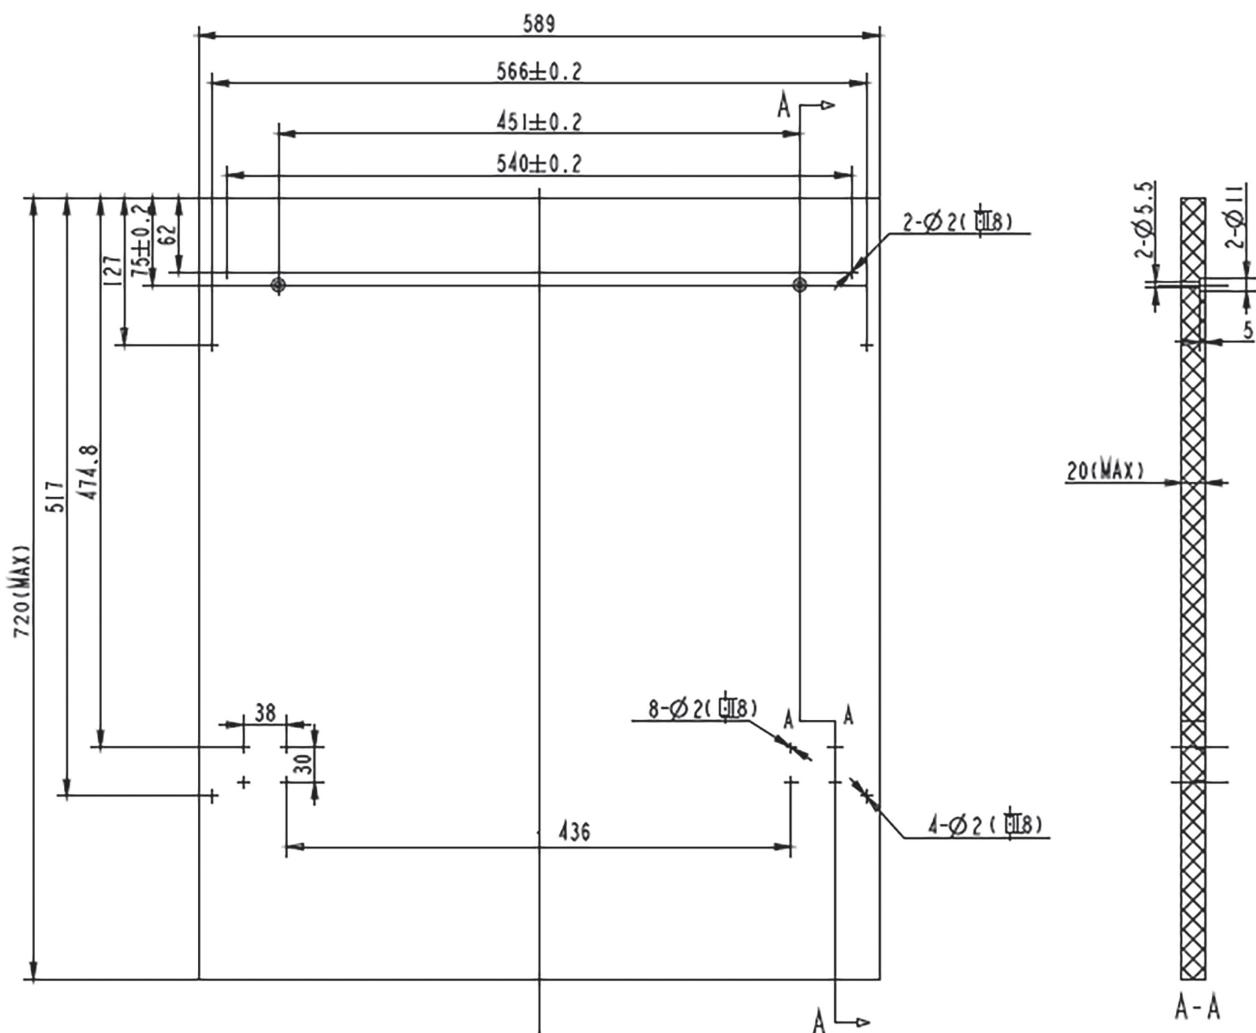

Figure 3
- The aesthetic wooden panel could be processed according to the Figure 3.